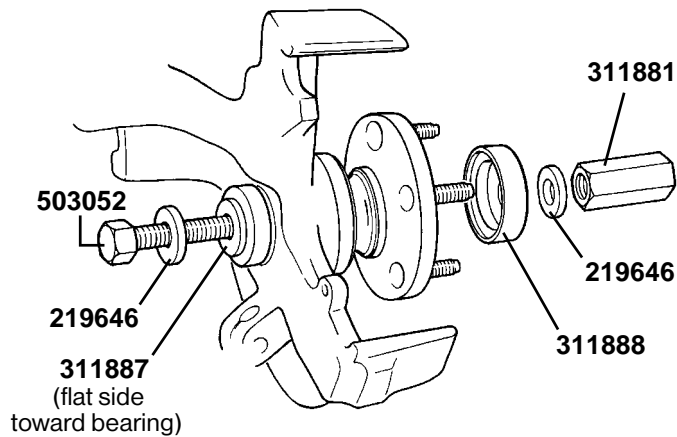

Figure 4
6. Assemble tool components as shown in Figure 4, and install the hub. **Important: Assemble the bearing installer with the flat side toward the bearing, and the small diameter pilot on the side away from the bearing.**